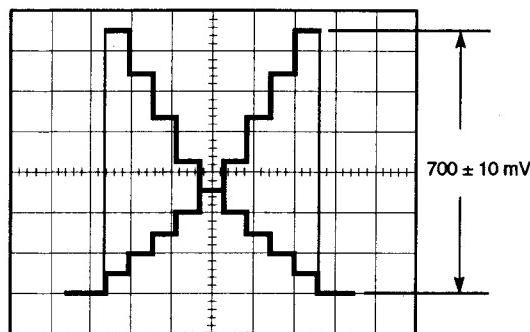

Fig. 5-1-27
- Adjust VR104 so that the Video signal level becomes 700 ± 10 mV as shown in Fig. 5-1-27.
- Adjust VR204 so that the Video signal level becomes 700 ± 10 mV as shown in Fig. 5-1-27.
- Adjust VR304 so that the Video signal level becomes 700 ± 10 mV as shown in Fig. 5-1-27.